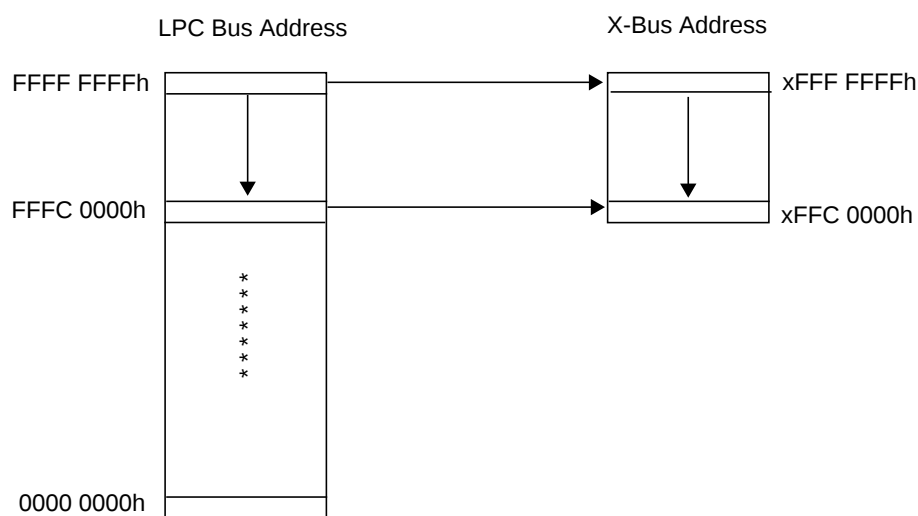

Figure 13. LPC-to-X-Bus Address Translation: 386 Mode-Compatible BIOS Range
- **User-Defined Memory Zones (MEM 0 and MEM 1) and 386 Mode-Compatible BIOS Range:** The 28 least significant address lines of the LPC address are used as the X-Bus input address. Figure 13 illustrates the mapping for this zone.